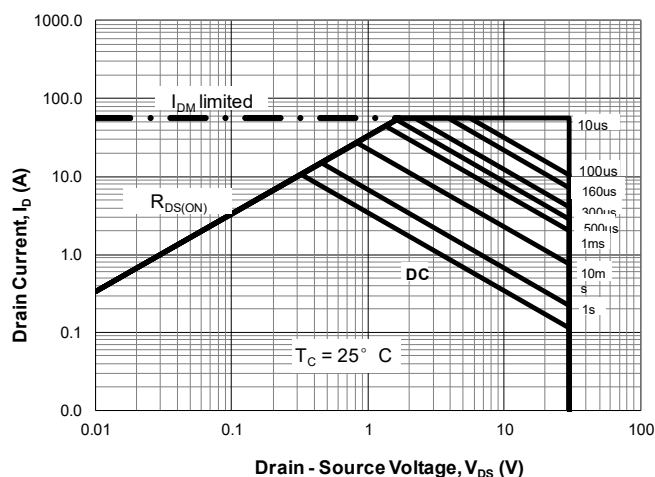

Figure 22. Safe Operating Area (SOA) Curves for Sink Power Switch
Referring to the SOA curve in Figure 22, the maximum power allowed for 2ms (DC) is 50W (2.5A x 20V or 5A x 10V). The AOZ1327DI power switch is robust enough to drive a large output capacitance with load in reasonable soft-start time.